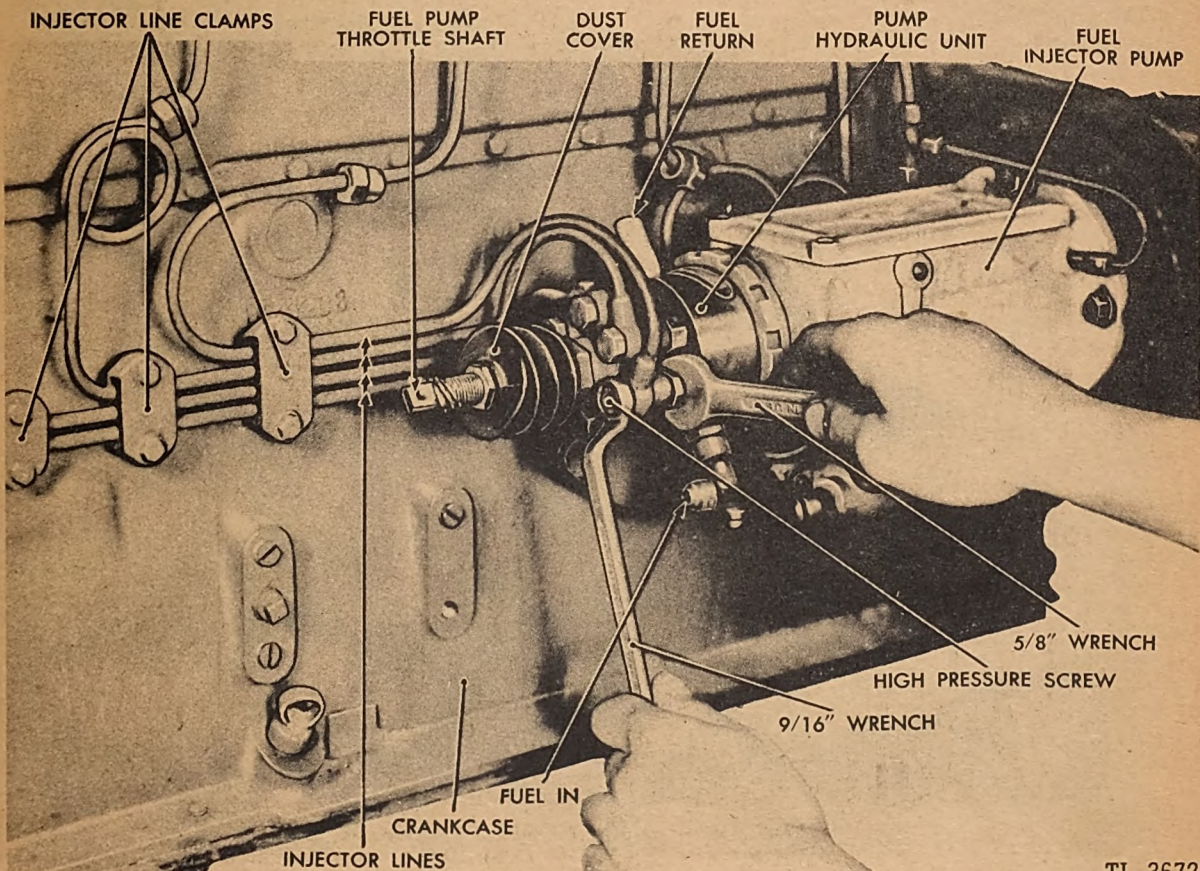

Fig. 74. Disconnecting High Pressure Lines from Hydraulic Unit
(5) Remove the six high pressure fuel lines from the fuel pump hydraulic unit with a  $\frac{9}{16}$ -inch wrench. (See Figure 74.) A  $\frac{5}{8}$ -inch open end wrench is used to prevent the check valve from accidentally becoming unscrewed. Un-